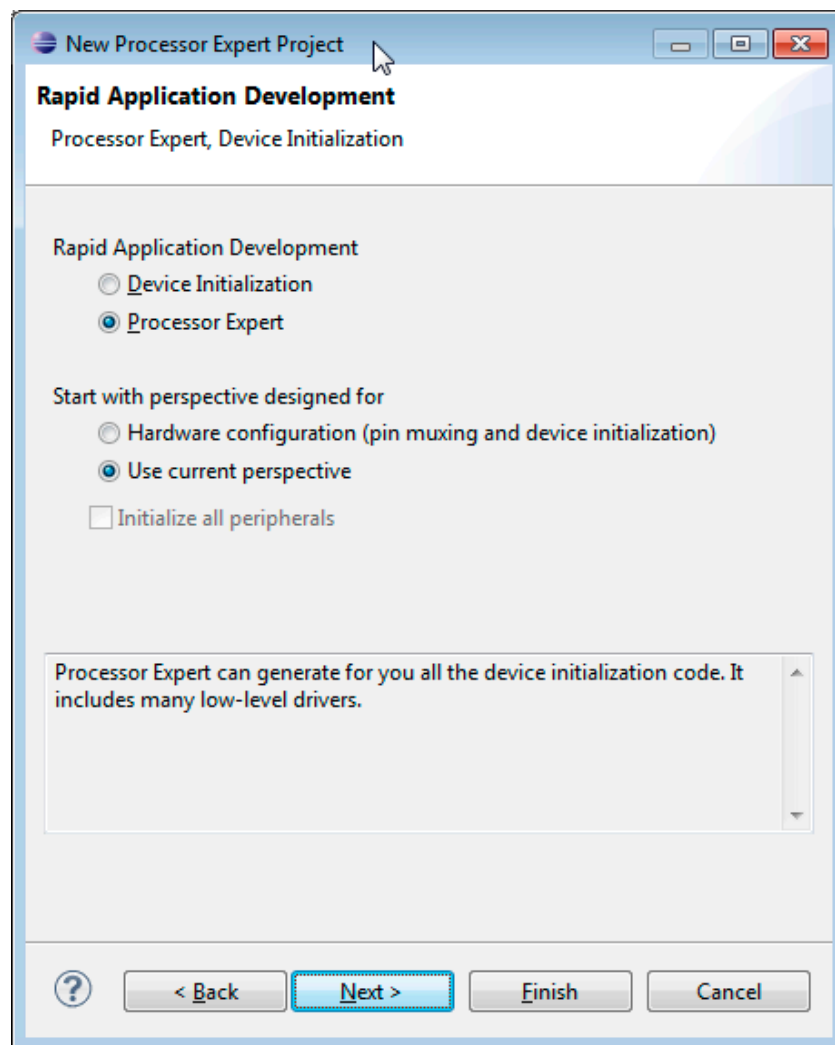

Figure 3. New Processor Expert Project Wizard - Rapid Application Development Screen
6. Select the target derivative to be used for the project and click **Next** to display the **Rapid Application Development** screen (Figure 3).